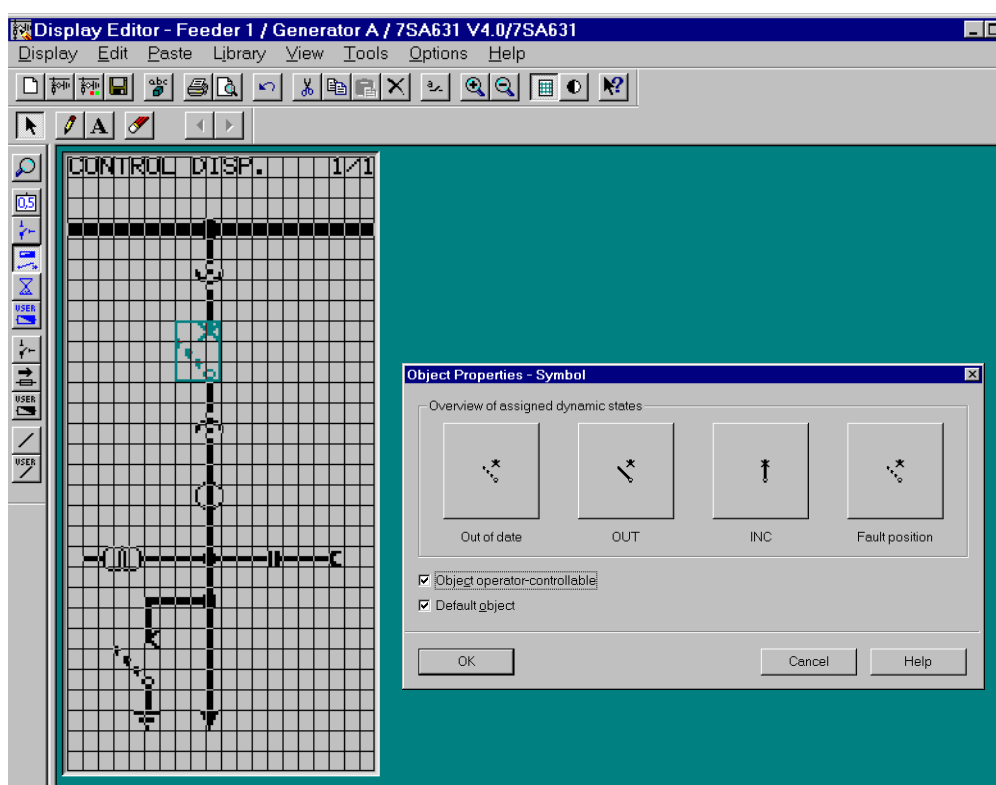

Figure 5-50 Procedure to make devices operator-controllable and get them offered first for switching
- Use dynamic symbols for breaker and switches (See Figure 5-50).
- As the switching devices in the bay are to be controlled via the feeder control display, you need to make the respective device controllable for the operator. Double click on the device in the active control display (see Figure 5-50). Then select **Options devices** in the active dialog window and highlight **Object operator-controllable**.